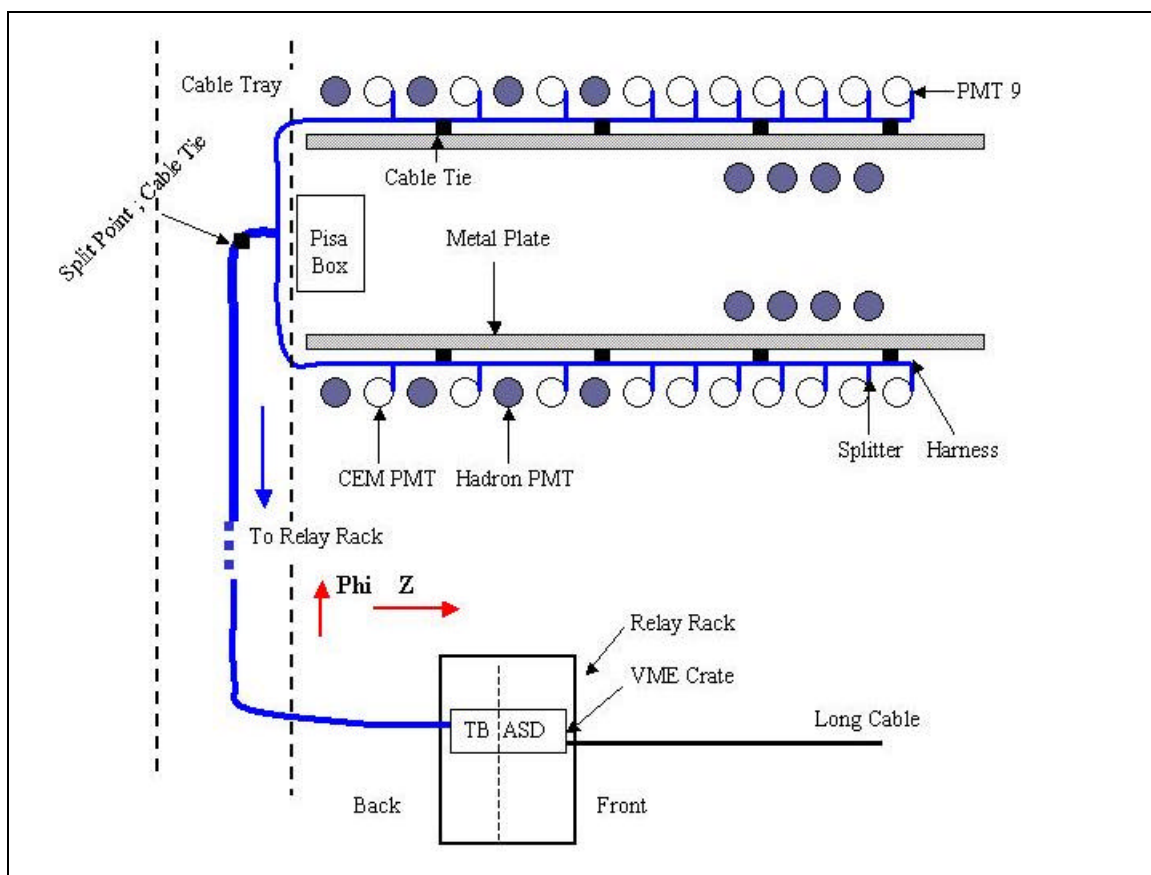

Figure 2: Schematic layout of the Splitter harness on the detector.
- Bring a coiled CEM harness to the cable tray (see Figures 2 and 3) near the wedge being installed.